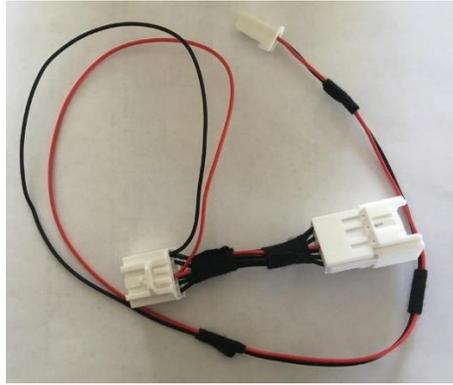

Figure 5
11. If the harness for Key Fob operation is included (*Figure 5*), reattach the door connector through the harness. Plug the 2-pin key fob harness connector into the main window controller harness. Route the Key Fob harness as shown in *Figures 6 and 7*.